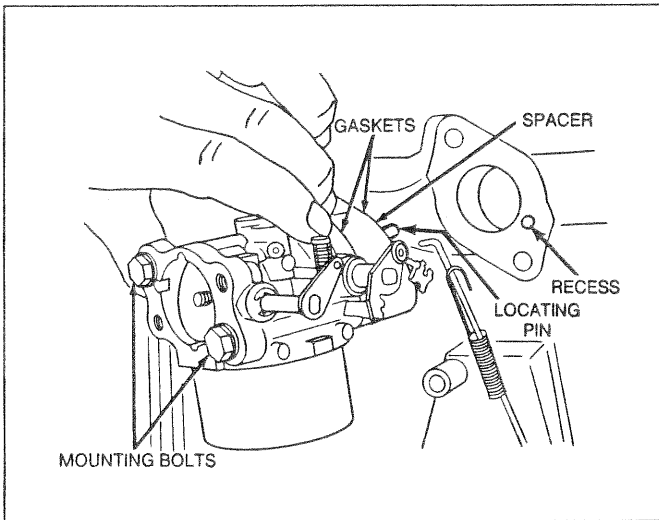

Figure 141. Carburetor Installation
- Insert mounting bolts (Figure 141) through carburetor, gasket, spacer and gasket. Align carburetor spacer locating pin with recess in intake manifold. Install carburetor onto manifold. Tighten bolts to 7 N-m (65 inch-pounds).